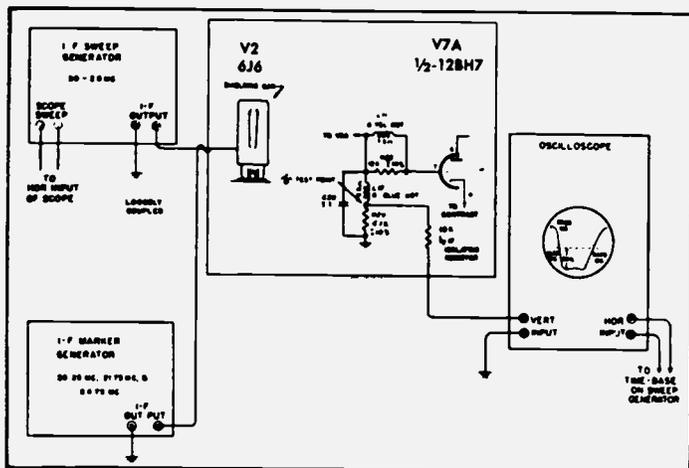

FIG. 3. IF ALIGNMENT BLOCK DIAGRAM
4. Connect TV I-F Signal Generator through a 1500 MMF condenser to Test Point (A) of tuner unit; low side to ground. (See schematic diagram.)
5. Connect negative lead of V.T.V.M. (or meter of 20,000 ohms-per-volt, or better) to 4.7K diode load resistor TEST POINT (B); positive lead to ground. (See schematic diagram.)
11. Remove Signal Generator. Feed a video I-F Sweep Generator (20 to 28MC) through loosely coupled shield of 6J6 converter tube, making sure shield is not grounded. (Refer to Fig. 3.)